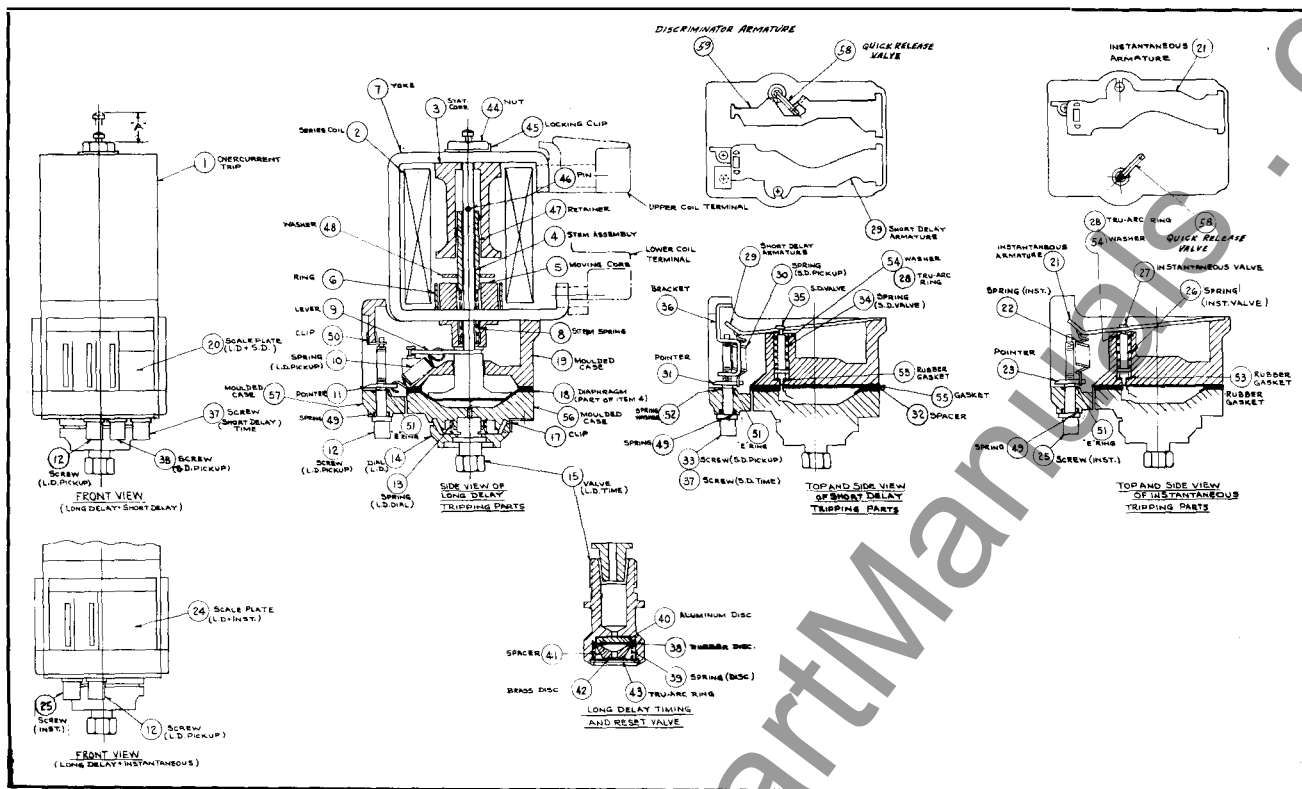
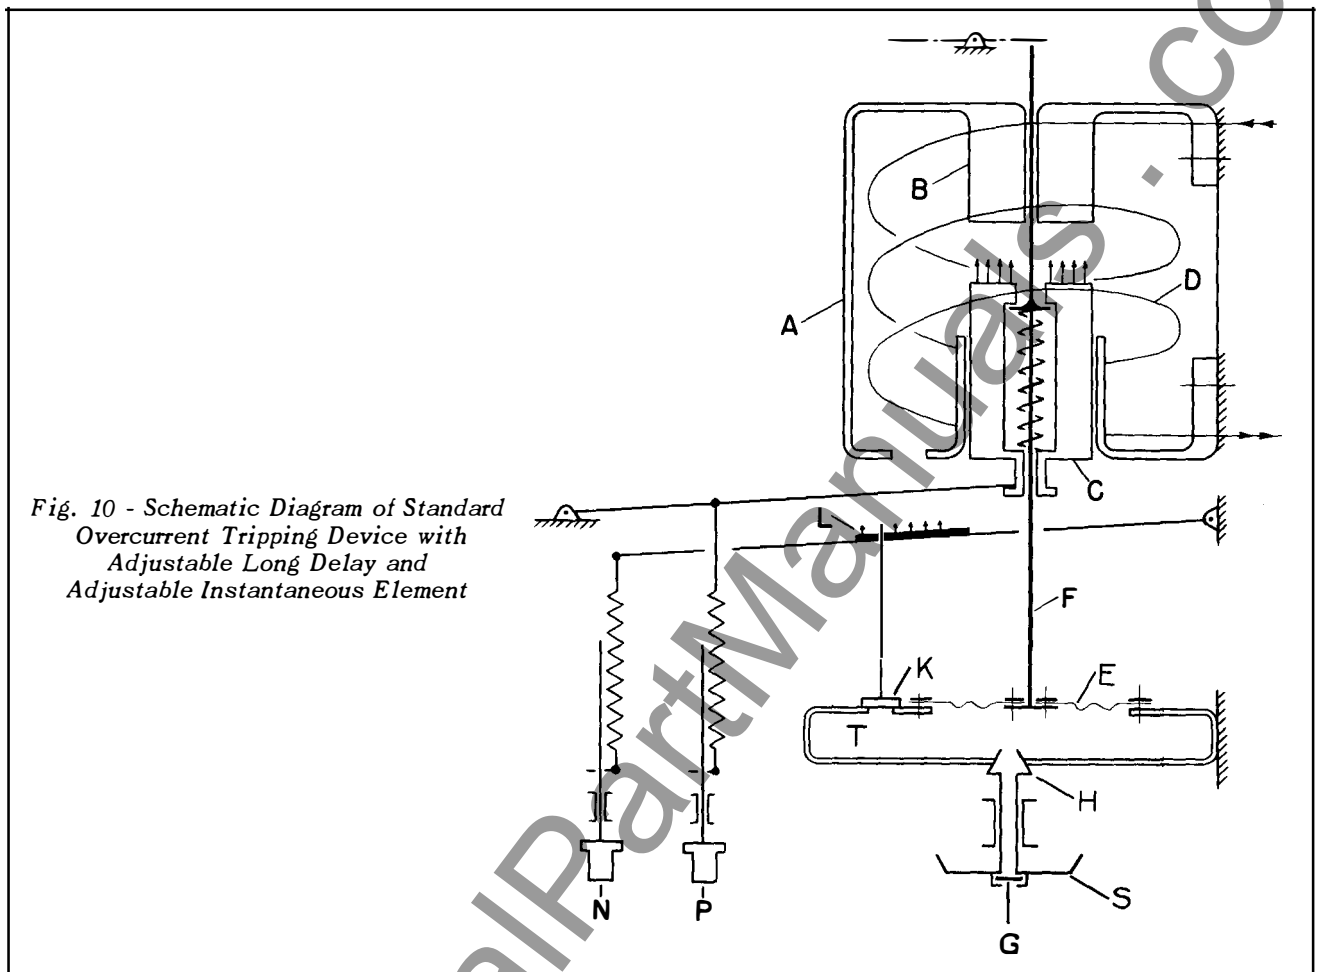
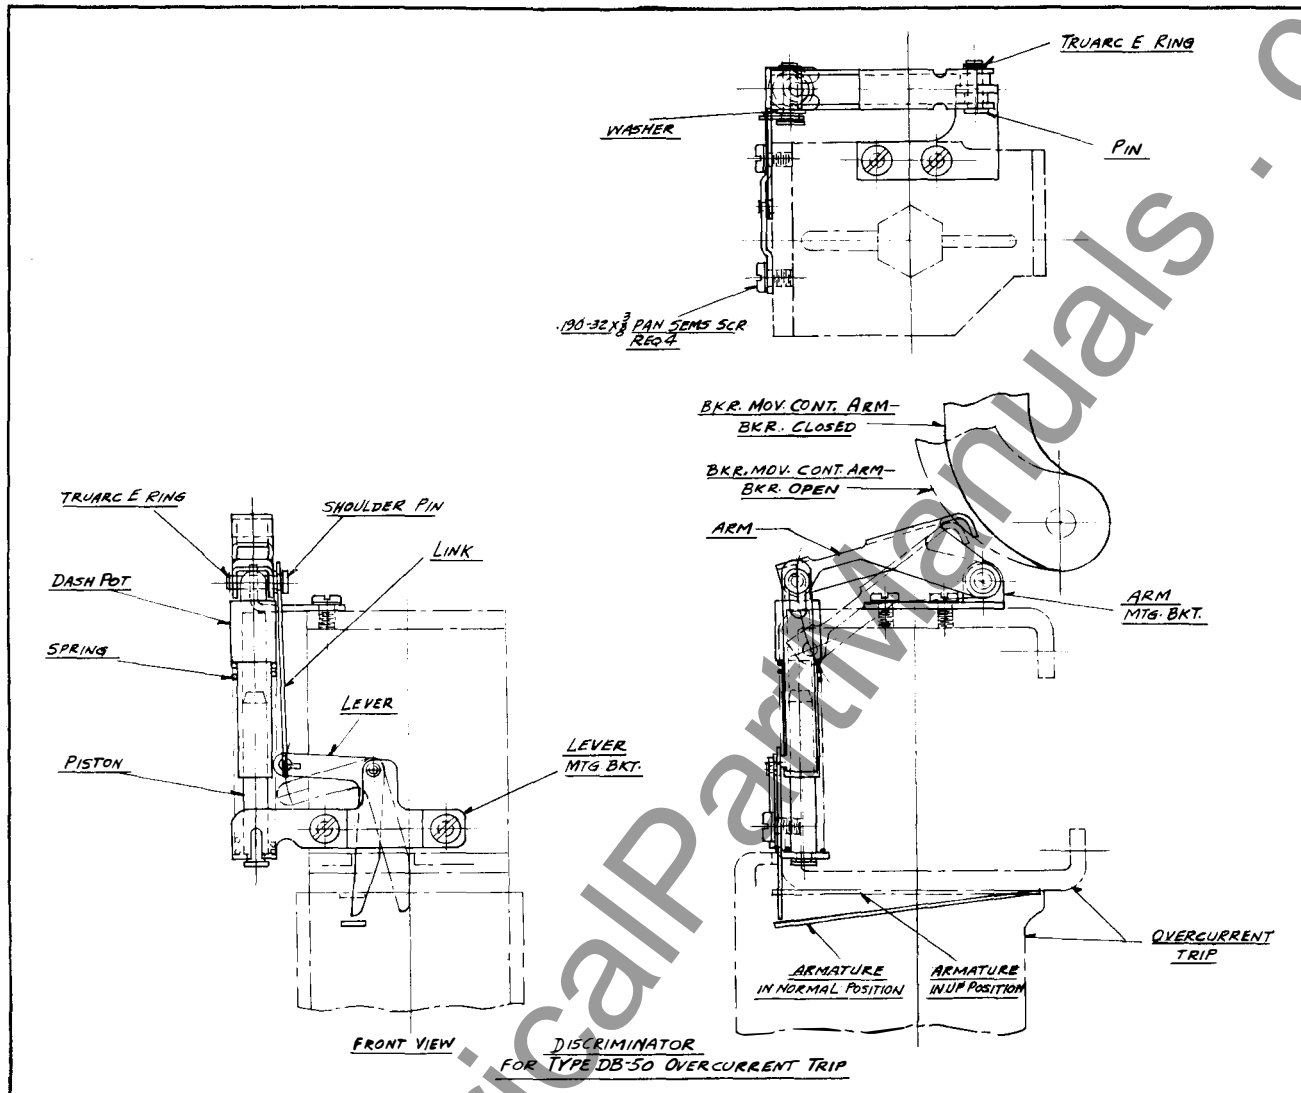

Fig. 6 - Cross-Sectional View of Series Overcurrent Tripping Device with Long Delay and Instantaneous Elements
Fig. 10 - Schematic Diagram of Standard Overcurrent Tripping Device with Adjustable Long Delay and Adjustable Instantaneous Element
Fig. 13 - Discriminator for Tripping Device
To manually check the overtravel refer to Fig. 6. The air delay device can be made inoperative by opening the instantaneous valve (or the short delay valve in the case of selective type tripping devices). The valve is opened by lifting the instantaneous (or short delay) armature. A slot is provided in the side of the molded case and a small rod approximately 1/16 diameter can be entered through the side of the case and used as a lever to lift the armature. After the valve is blocked open, the trip plunger
As seen from the sectional view Figure 6, the magnet frame and coil assembly consists of a yoke, a coil, a stationary and moving core together with their necessary insulation.
An overload or short circuit through the series coil D, Fig. 10, will cause the moving core C to be attracted and move toward the stationary core B. At low currents, the moving core C will carry the tripping stem F along with it, and the motion will be retarded by the diaphragm E. The rate of travel of the diaphragm is determined by the rate at which air is permitted to enter
B. A quick release valve (shown in Fig. 6-short delay tripping parts) which functions as described for dual overcurrent tripping device.
C. Discriminator armature, Fig. 6.
The discriminator operating linkage, Fig. 13 and the discriminator armature, Fig. 6 are used on the selective overcurrent tripping device to make the device behave as an instantaneous type tripping device while the breaker is being closed and for approximately 0.5 seconds after closing. During this period, the discriminator armature is free to lift the quick release valve and permit instantaneous tripping, if the current is greater than the discriminator armature pick-up setting. If the current does not rise above this value, the breaker remains closed and the discriminator linkage assumes a position which makes the discriminator armature inoperable and restores the selective tripping feature to the tripping device.
The long delay pick-up can be adjusted by means of P, Figure 10, also shown in Figure 6. The unit has been calibrated and the calibration plate marked at five settings, namely 80, 100, 120, 140 and 160 percent of the coil rating. The pick-up was placed on the 100 percent setting before shipment. A different setting can be obtained by carefully turning the adjusting knob with the help of a small screwdriver inserted in the slots for that purpose.
The long delay can be adjusted by means of the long time adjusting dial S, Figure 10, also shown in Figure 6. The dial adjustment is limited to slightly less than one turn. Two points have been calibrated at the factory and are indicated by white marks on the outer edge of the dial. The dial has markings from 1 to 10. When the higher-numbered white mark on the dial coincides with the white indicator on the front of the lower case, the tripping time will be the higher long delay value shown in seconds on the scale plate. Conversely, when the lower-numbered white mark on the dial coincides with the white indicator on the front of the lower case, the tripping time will be the lower long delay value shown in seconds on the scale plate. These tripping times are calibrated with currents which are 600 percent of the coil rating applied. The dial settings are scribed on the scale plate under long delay dial setting heading.
chamber T by the various valves H and K. When the diaphragm has reached approximately 60 percent of its travel, a quick release valve (shown in Fig. 6) is mechanically opened. This quick release feature permits the full force of the magnet to be used for tripping the breaker after the timing cycle is completed. At higher currents when the attraction between the moving core C and the stationary core B is greater than the load on the spring inside of the moving core, the moving core will compress the spring and travel independently of the tripping stem F. This spring insures a constant force pattern acting on the diaphragm E. The reset valve is shown as G.
Valve H is the long delay valve and it is permanently open to a calibrated setting. This setting which controls the tripping time can be changed by means of dial S, Figure 10. The magnitude of current at which the
long delay will begin to operate is determined by the long delay pick-up adjusting knob P, Figure 10. The magnitude of current at which the instantaneous trip will operate is determined by the instantaneous pick-up adjusting knob N, Figure 10.
The instantaneous pick-up can be adjusted by means of knob N, Figure 10, also shown in Figure 6. The instantaneous pick-up has been calibrated at 8 and 12 times or 5 and 10 times the coil rating at the factory. The adjusting knob can be turned carefully with the help of a small screwdriver inserted in the slots for that purpose, if a different setting is desired.